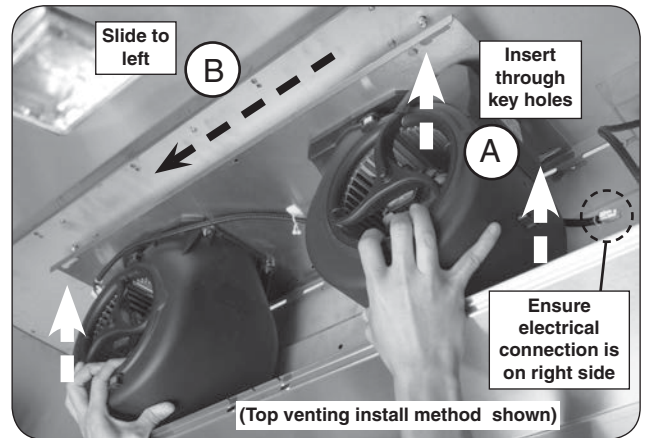

Fig. 17-2 Insert fan assembly
1. Locate the (4) nuts pre-installed to the ceiling or rear wall (as applicable) of the vent hood, and using a $\frac{3}{8}$ " nut driver, loosen (but do not remove) to allow for the fan assembly to be inserted. See Fig. 17-2.
2. With the electrical connection oriented to the right side of the vent hood, carefully position the fan assembly, aligning the keyholes to the loosened nuts. See Fig. 17-2, A.
3. Mount the fan assembly flush against the vent hood ceiling (or rear wall) ensuring the nuts protrude through the keyholes, then slide the assembly to the left so that it is supported from the nuts. See Fig. 17-2, A and B.